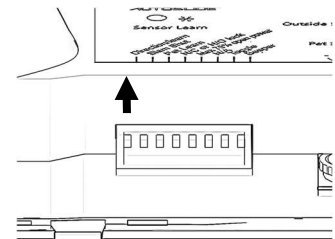

Figure 49: All DIP switches off.
2. Configure DIP switch settings as desired if needed. Ensure DIP switch #1 is flipped off (towards the front of the unit's control panel) as depicted in Figure 49.